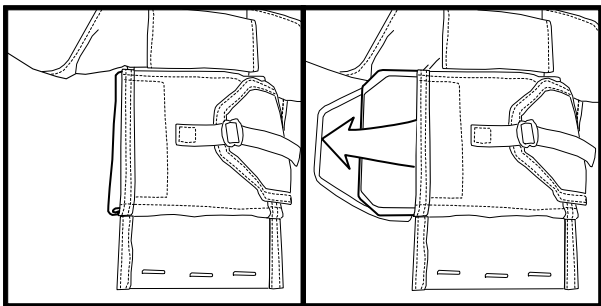

Figure 12. Removing ESBI Plates.
- b. Remove ESBI plates from side carriers, if installed (Figure 12).